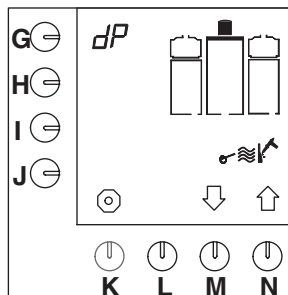

Fig. 15 Starting the descaling programme coffee-making system
- The descaling programme appears on the display (fig.15).